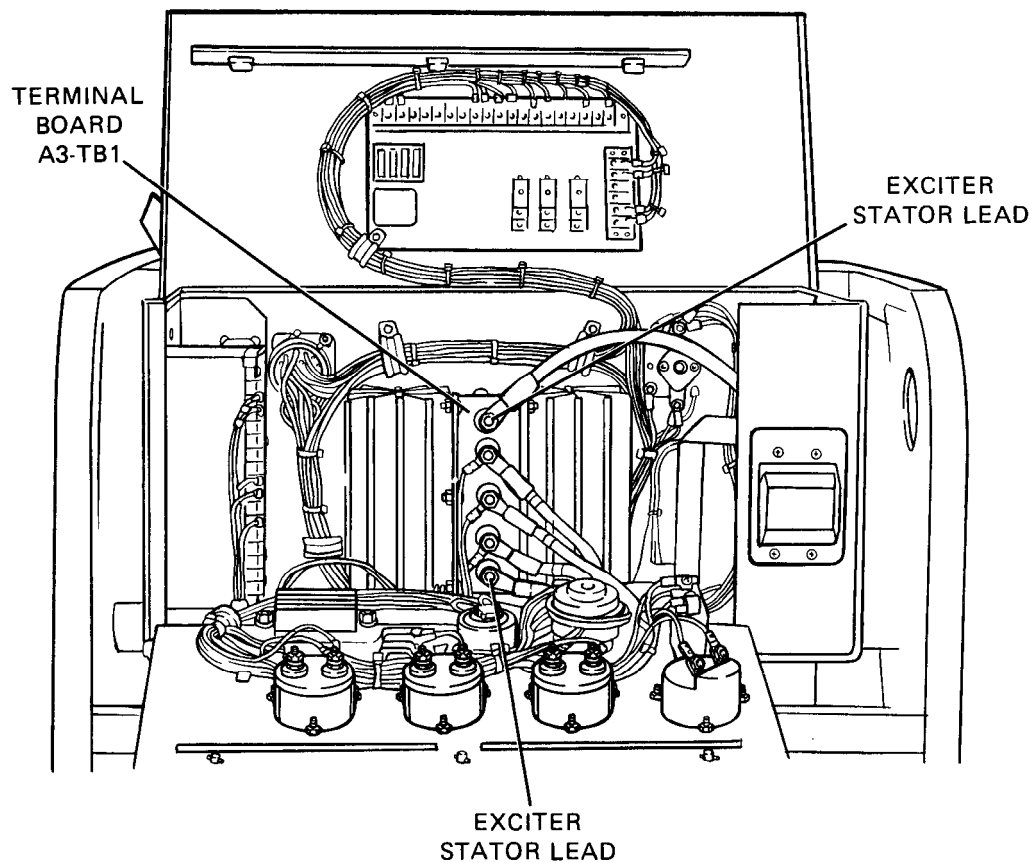

Figure 5-2. Generator Testing-MEP-026B.
- 2 Model MEP-026B (28 VDC) disconnect exciter stator leads at terminals #1 and #2 of terminal board A3-TB1 (see Figure 5-2).
- 2 MEP-026B (28 VDC) set disconnect the three stator leads (T1, T2, and T3) from the control box. Lead T1 is connected to terminal #4 of terminal block A3-TB1 (see, Figure 5-2). Lead T2 is connected to terminal #2 of A3-TB1 and lead T3 is connected to terminal #3 of A3-TB1.